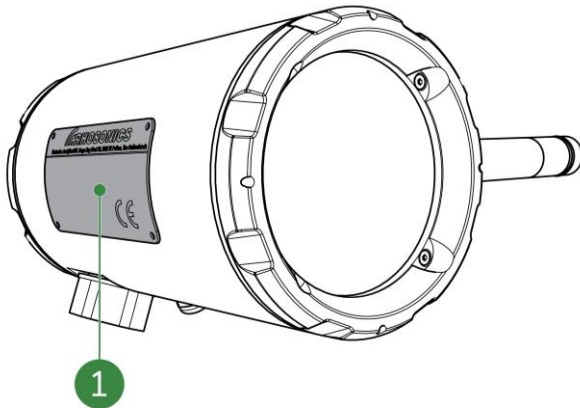

Figure 1-5: Identification plate transmitter
The identification plate (Figure 1-5, pos. 1) of the SDM is mounted on the side of the SDM.